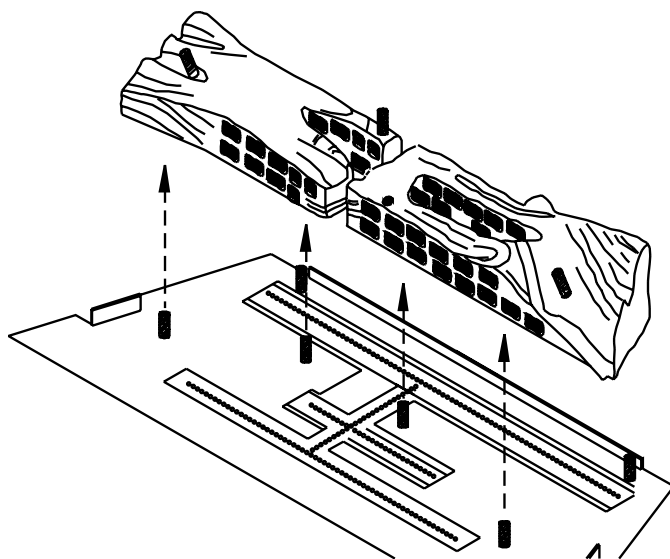

Figure 11
- 4) Rotate the right front log (3018 is cast into its bottom surface) so the black charred surface is toward the front. Place this log so the two holes in its bottom surface slide onto the two pegs on the right side of the air control panel. See **Figure 11**.
- 5) Rotate the left front log (3017 is cast into its bottom surface) so the black charred surface is toward the front and place it on the pegs protruding from the left side of the air control panel as shown in **Figure 11**.